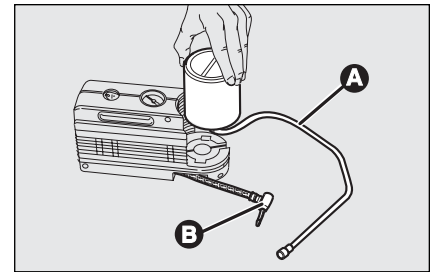

fig. 17
- disconnect connection **B**-**fig. 17**;